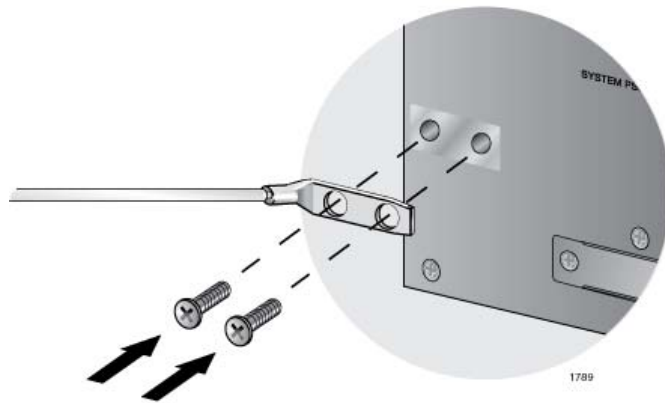

Figure 45. Installing the Grounding Lug and Wire
4. Install the grounding lug on the rear panel of the chassis, as shown in Figure 45.